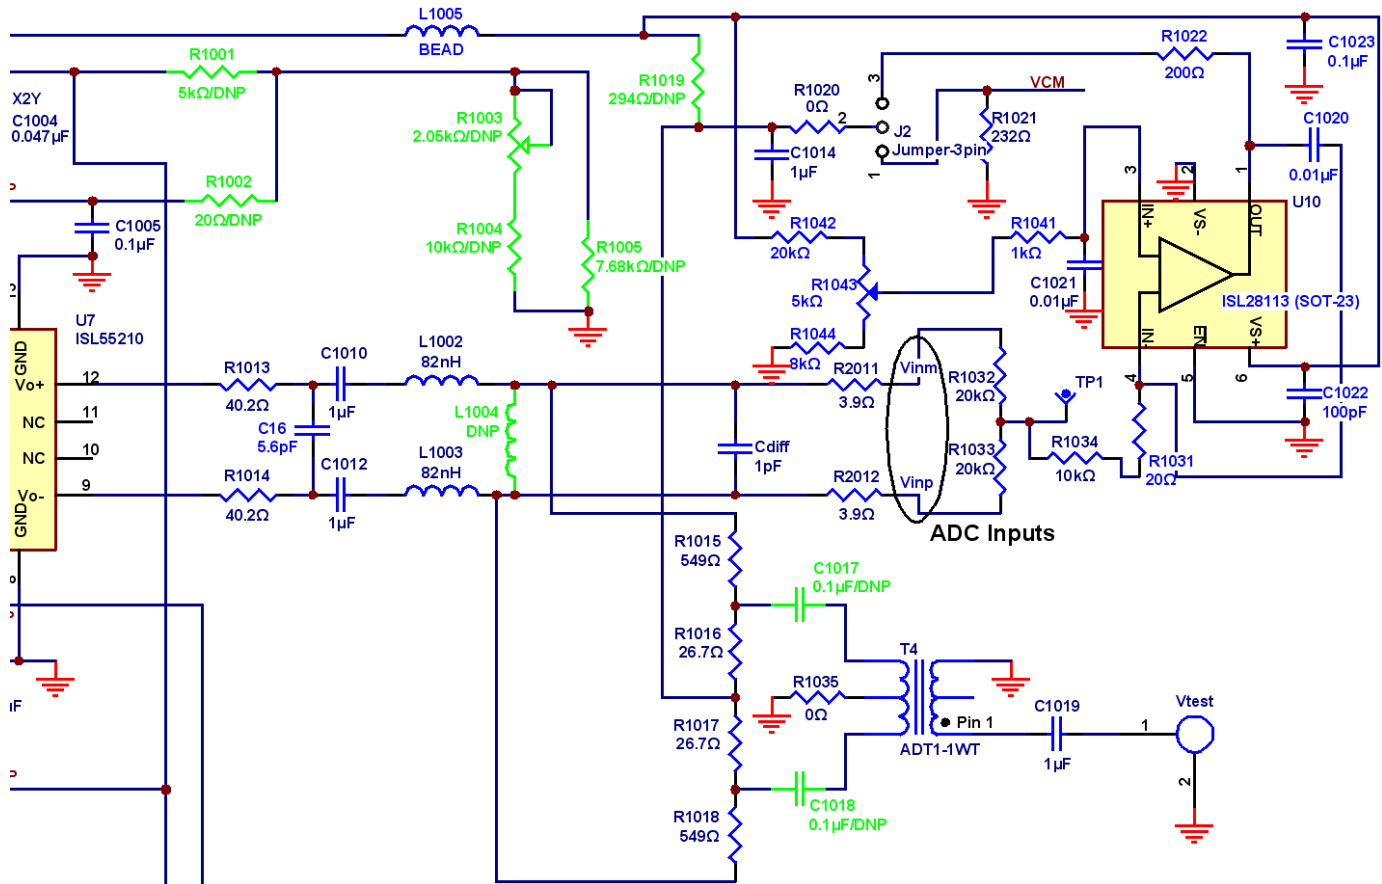
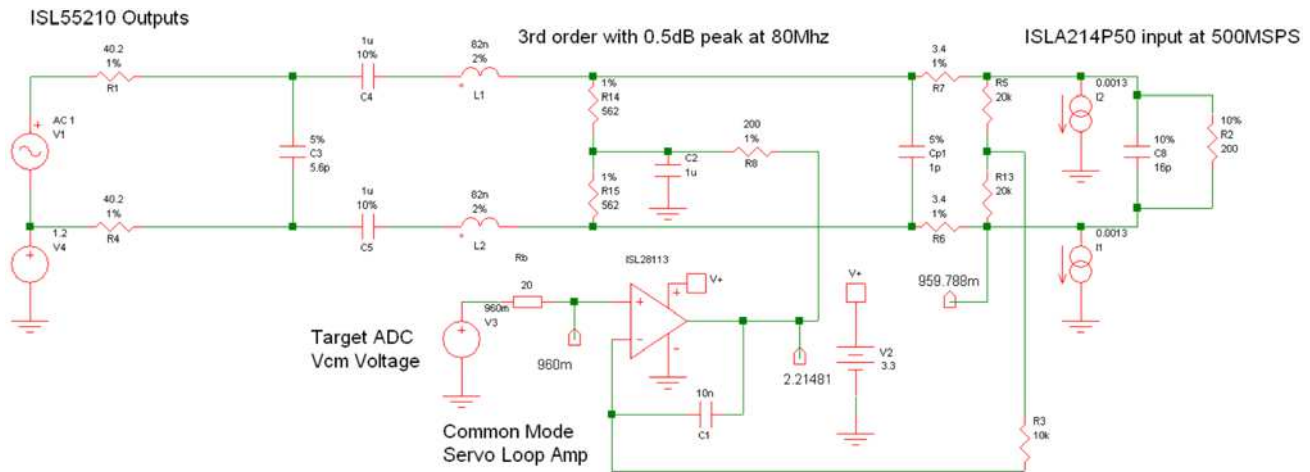
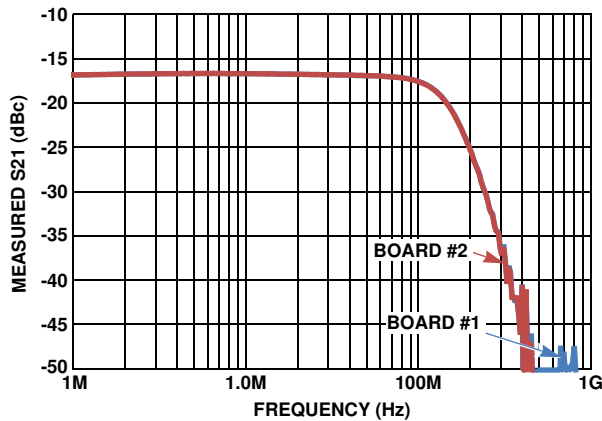

FIGURE 8. OUTPUT INTERFACE FROM ISL55210 TO THE ISLA214P50 DIFFERENTIAL INPUTS
FIGURE 9. SIMULATION CIRCUIT FOR THE INTERSTAGE FILTER AND V_{CM} SERVO LOOP
FIGURE 11. OVERALL FREQUENCY RESPONSE SHAPE FROM THE BOARD INPUT TO THE ADC
The signal path from the ISL55210 to the ADC is AC coupled, allowing the amplifier and ADC to operate at the common-mode voltage that optimize each device’s performance. As delivered, the differential output of the ISL55210 operate with a common mode voltage that is left to default to the internal 1.2V value. This can be adjusted to different set point via an optional path. The interstage passive circuit provides an AC coupled, 3rd order low pass filter. Built into this filter are an ADC common mode voltage servo loop which controls the common-mode DC voltage delivered to the ADC input pins and a wideband passive sense path going differential to single ended to directly measure the response shape to the ADC inputs. The circuit as delivered is shown in Figure 8.
The differential signal at the outputs of the ISL55210 proceeds from left to right in Figure 8 through the 40.2Ω resistors to a differential 5.6pF capacitor and then into the 1μF DC blocking capacitors. Those level shift the DC operating voltage from the FDA outputs to the required common mode voltage at the ADC inputs. The rest of the passive filter from there is pair of series 82nH inductors then into a parallel RC network comprised of the 4 resistor network feeding the differential to single ended sense path at the output of T4, an external 1pF differential capacitor and then the internal RC elements of the ADC. A final circuit element senses the average common mode voltage at the ADC inputs using the 2-20kΩ resistors and feeds that into a low frequency servo loop amplifier using the ISL28113 which then feeds a DC control voltage to the center of the 4-resistor string that acts to control the ADC common mode operating voltage to the reference voltage applied at the ISL28113 V_+ input.
Critical to understanding the response shape are the estimated internal ADC elements as shown in the simulation circuit for this interface in Figure 9 (this element numbering here does not follow the build schematic of Figure 8)
This slight peaking is intended to equalize some of the rolloff up to the FDA outputs but then bandlimit quickly above 100MHz. The V_{TEST} of Figure 8 provides an easy means to verify the frequency response shape from the board input to the ADC. The 4 resistor network feeding T4 in Figure 8 shows a about a 25Ω source to each leg of the 1:1 transformer while its total impedance across the signal path is part of the filter design. This path will have considerable insertion loss (~31.8dB) but an accurate replica of the response shape as shown for 2 boards measured in Figure 11.
Clearly the overall response shape is doing a good job of providing approximately 15dB gain from board edge with <-1dB rolloff to 100MHz. It is important for distortion reasons to stay away from the rolloff regions of the input step up transformer. The intended minimum frequency in this application is 100kHz, well above the 40kHz -1dB measured on the ADT4-6T while the maximum intended frequency is 100MHz which is also well below the measured 180MHz -1dB frequency on the ADT4-6T. The interstage filter bandlimits the broadband noise out of the ISL55210 to reduce SNR degradation through the ADC while also providing a bit of HD2 and HD3 attenuation from the FDA outputs to the ADC inputs. For instance, a single tone 80MHz at the FDA output pins will have an HD2 at 160MHz and an HD3 at 240MHz. The response shape of Figure 11 suggests that HD2 term will get about 4dB attenuation while the HD3 term will get 13dB attenuation to the ADC inputs.
2. The ADC input resistance will increase slightly. The 200 Ω internal value shown in the simulation circuit of Figure 9 is a combination of an extrinsic 300 Ω element and the effective resistance of a sampling cap. That impedance is approximately $1/(F_s * 3.3pF)$. As the clock rate decreases, this impedance will increase moving the apparent input resistance up. By 200MSPS the total ADC internal resistance is \approx 250 Ω . This shift will slightly change the response shape of the interstage filter.